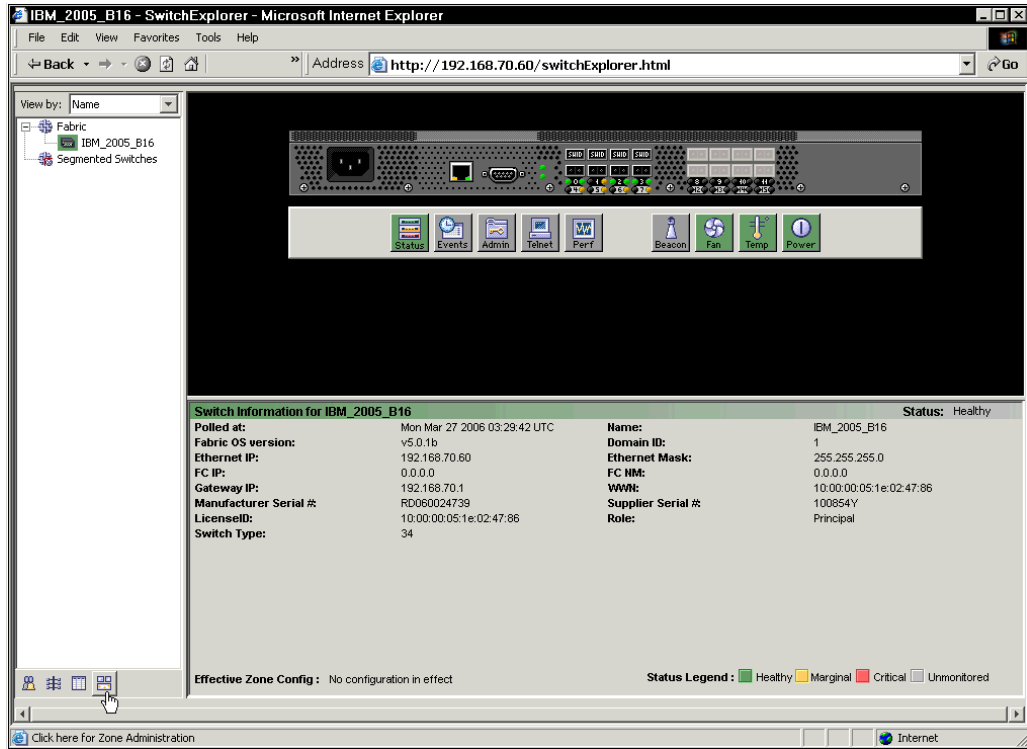

Figure 16 Zoning button on fabric console.
1. Use your Web browser to access the fabric administration console. Press the small button with three rectangles in, which is located in the lower left-hand corner, as shown in Figure 16. You may need to scroll down the browser window to see the button.